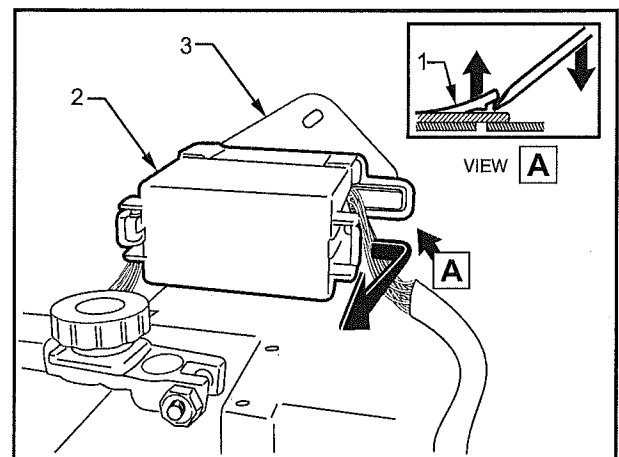

FIGURE 4
6. Raise to release the luggage compartment fuse box assembly retaining clip (1) (see view A) on the forward face of the fuse box (2) and slide the fuse box to the front of the vehicle to release the fuse box from its mounting bracket (3). Refer to Figure 4.